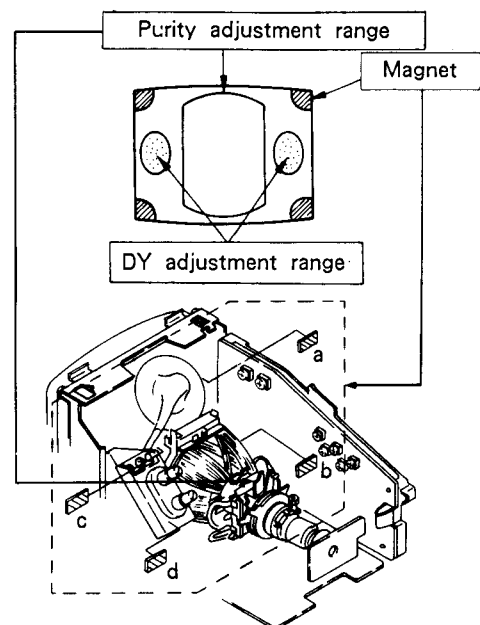

Fig. 8-4.
- 7) Correct with the magnets (a to d) if there is improper landing in the corners. (Fig. 8-4.)